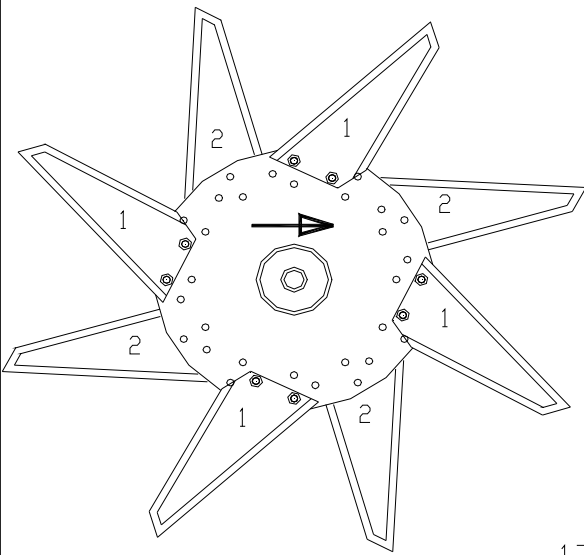

Fig. 4.
7. The deep slit knives (standard delivered with machine), can be mounted on the rotor, as shown in Fig.4. In Fig.4. four knives are evenly fitted at a disk. On the next disk, the knives should be mounted with an offset. In Fig.4 this is indicated with a number on the knives. One means the first disk etc. Mount the knives exactly the same way as drawn in Fig.4. For more information on knives and the assembly, see Chapter 12.